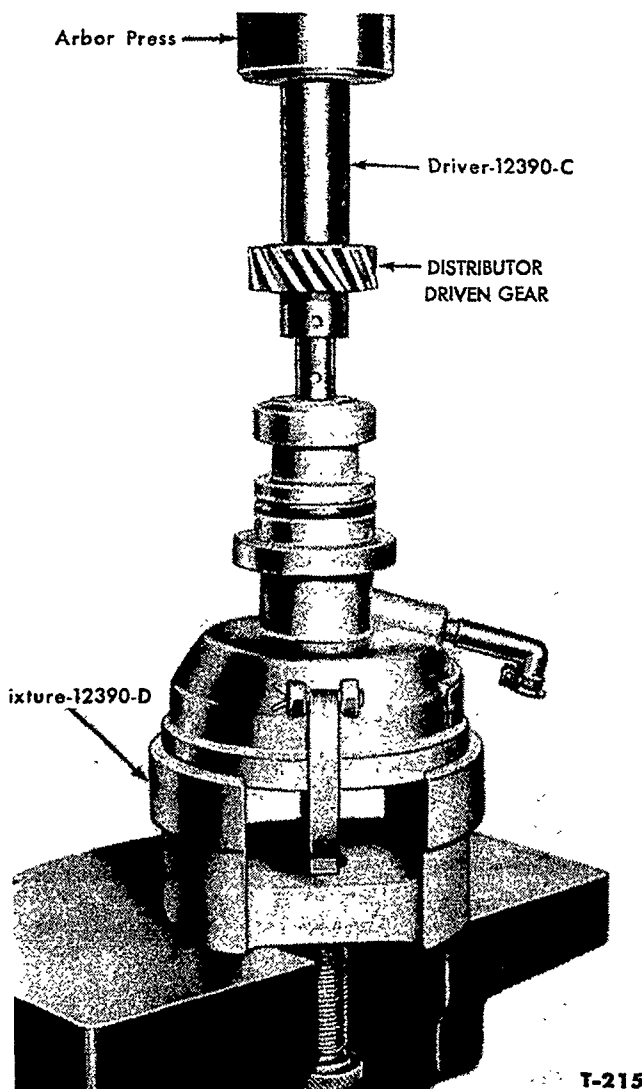

Figure 9—Installing Distributor Gear
5. Place the distributor shaft in the base. Position the base in Fixture 12390-D, Figure 9, and adjust the screw to remove all shaft end play. Place the thrust washer that was originally removed onto the distributor shaft. Place the gear on the shaft and align the hole in the gear with the one in the shaft. Press the gear onto the shaft, Figure 9, with Fixture Driver 12390-C until the holes are in alignment.